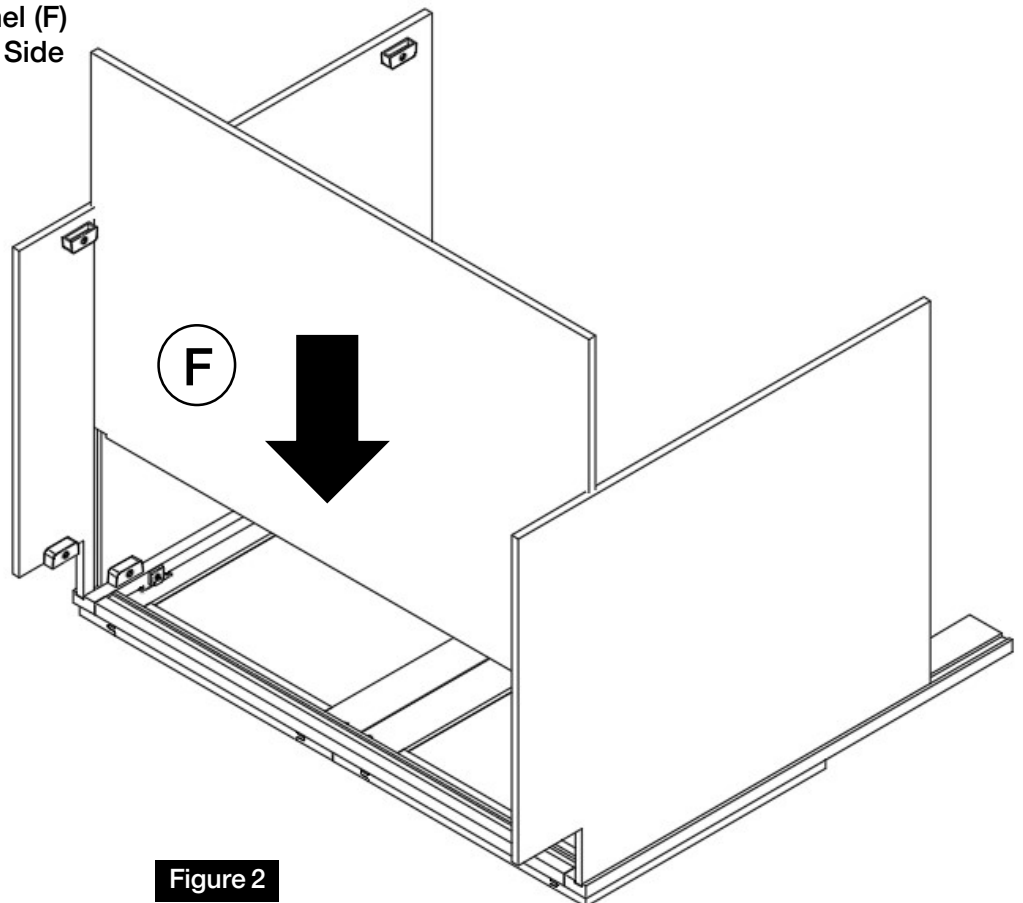

Figure 2
Insert the Bottom Panel (F) into the groove of the Side Panels and Frame. (Figure 2)